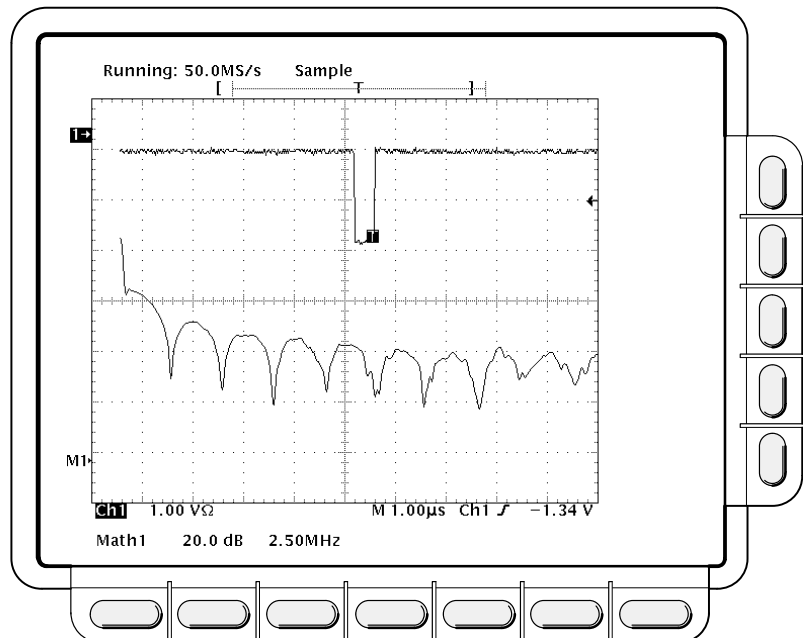

Figure 3-22: FFT Math Waveform in Math1
12. Press **OK Create Math Wfm (side)** to display the FFT of the waveform you input in step 1 (see Figure 3-22).